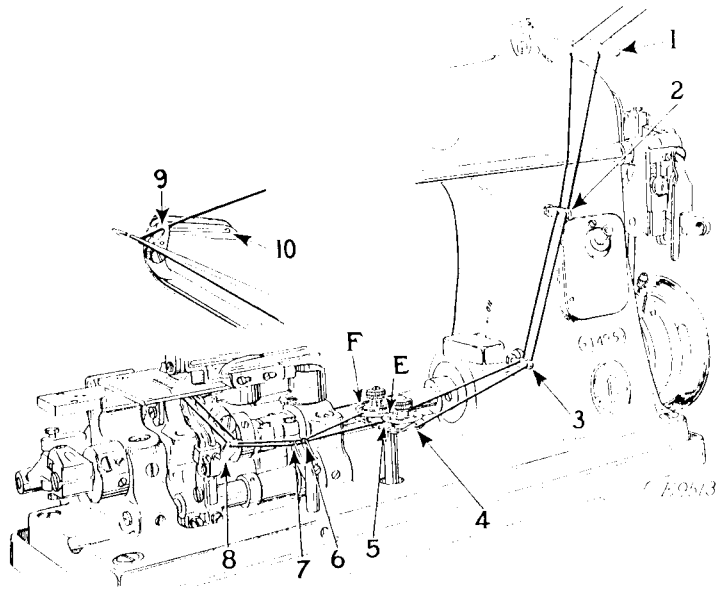

FIG. 5. THREADING THE LOOPERS
(SEE FIG. 5)
thread guides (4 and 5), around the back and between the tension discs (6 and 7), through the holes in the thread guide (8). Pass the thread for the left looper through the thread guide (7), omitting the thread for the right hand looper from this guide. Then pass the threads from you through the holes in the thread guide (8). With the left hand hold the threading wire sent with the machine and with the right hand place the thread in the slot of the threading wire, as shown in Fig. 5. Pass the threading wire under the throat plate and to the left of the looper, keeping the thread taut, and with a backward upward motion bring the thread into the hook (9) at the heel of each looper, as shown in Fig. 5. Then disengage the thread from the threading wire and pass the end of the thread from left to right through the eye (10) of the looper, both loopers being threaded in the same manner. Draw about two inches of thread through the eye of each looper with which to commence sewing.